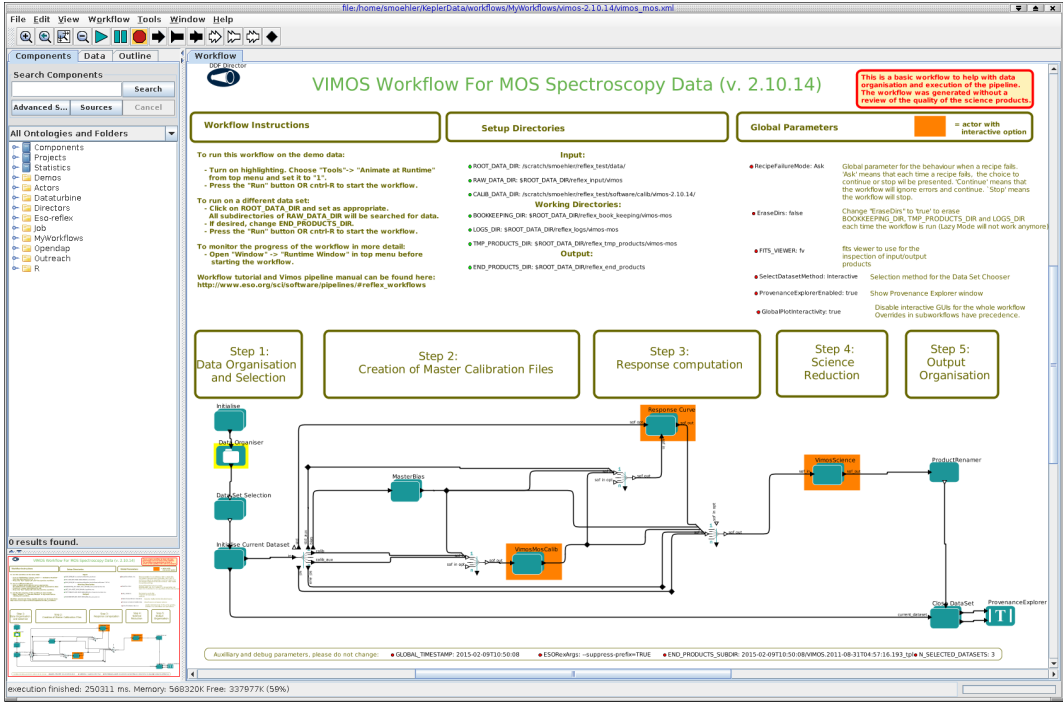

Figure 4.2: VIMOS/MOS workflow general layout.
2. Now open the VIMOS workflow by clicking on File -> Open File, selecting first vimos-2.10.29 and then the file VimosMos.xml in the file browser. You will be presented with the workflow canvas shown in Figure 4.2. Note that the workflow will appear as a canvas in a new window.